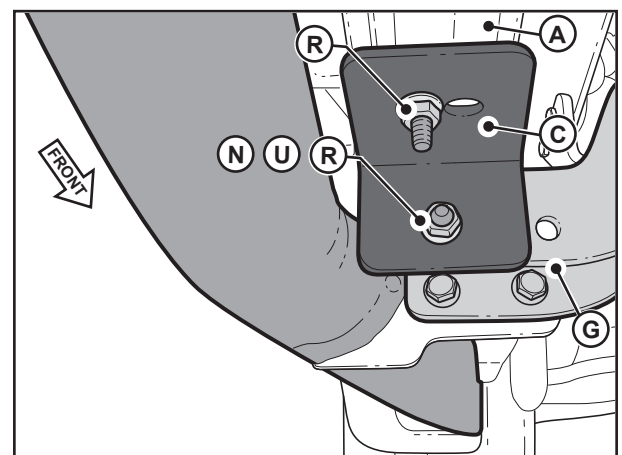

FIGURE 21
- Install the Front L-Bracket (**Item C**) to the underside of the Side Step (**Item A**) with M8 Flange Nut (**Item R**) as shown in Figure 21.
- Install the Front L-Bracket (**Item C**) to the Front Mounting Bracket (**Item G**) with M8 Bolt (**Item N**), Washer (**Item U**) and Nut (**Item R**) as shown in Figure 21.